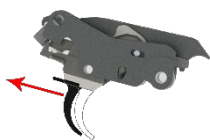

fig. 4
- a) Remove Trigger Blade (O) from Echo Assembly (A) by sliding it rearward. (Set the Trigger Blade (O) aside for installation later.) (See fig. 4)